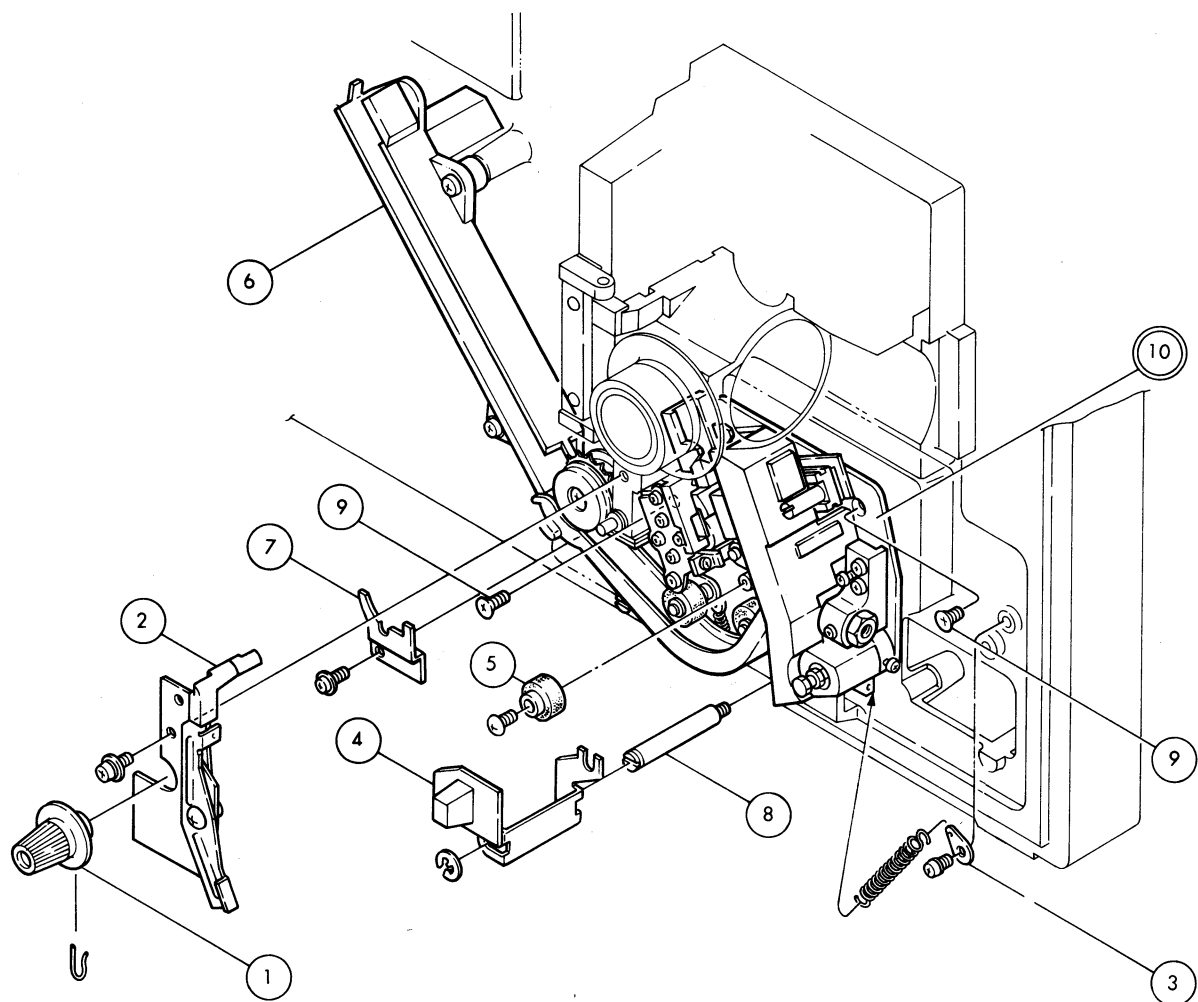

Fig 37
A. Disassembly Refer to Fig.37.
4. Remove the parts in order of numbering in Fig.37.